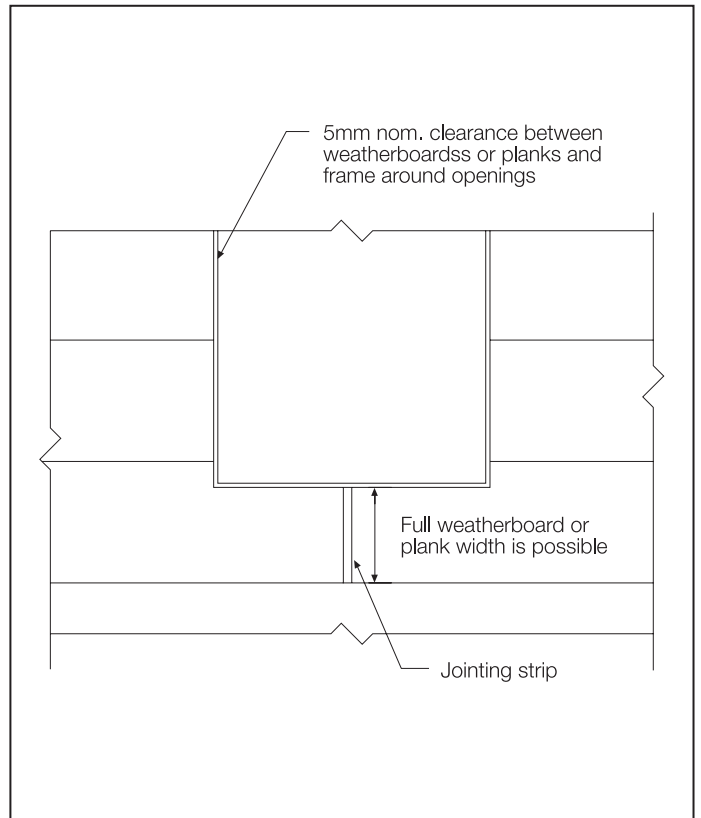

FIGURE 35 CUTTING AROUND OPENINGS
- For opening widths up to 1800mm - 1 joint minimum. Ideally, this should be located at a corner, but where joint lengths override this, the location of the joint can fall between the two corners. Refer to Figure 35.